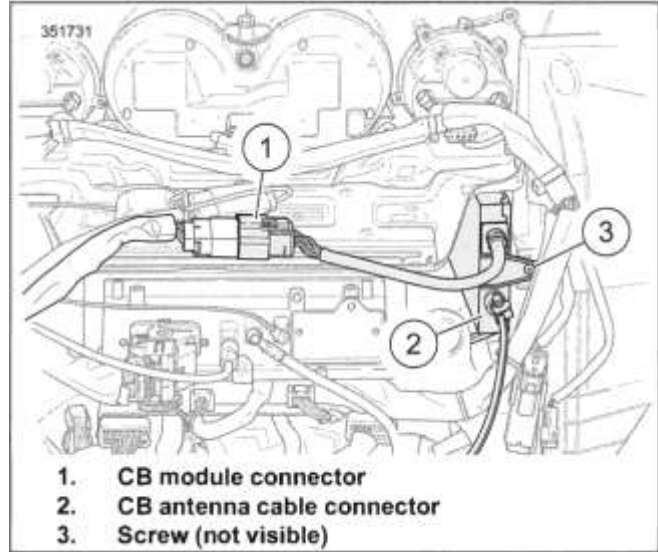

Figure 8-85. CB Connectors
1. See Figure 8-85. Disconnect:
- a. CB antenna cable connector (2).
- b. CB module connector (1).
2. Remove screw (3).
2. Install screw (3). Tighten.
3. See Figure 8-85. Mate connectors: